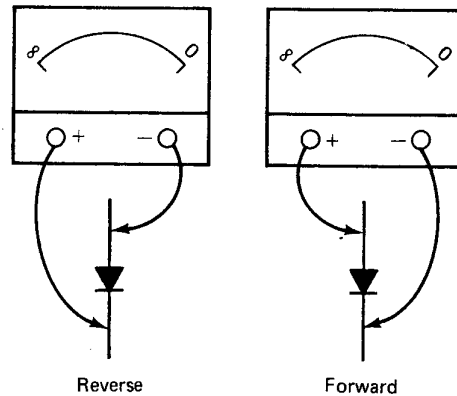

Fig. 51-1. Circuit connection for the measurement of forward and reverse resistance.
1. With the VTVM on the ohmmeter function, measure and record in Table 51-1 the forward and reverse resistance of the diode. See Fig. 51-1.